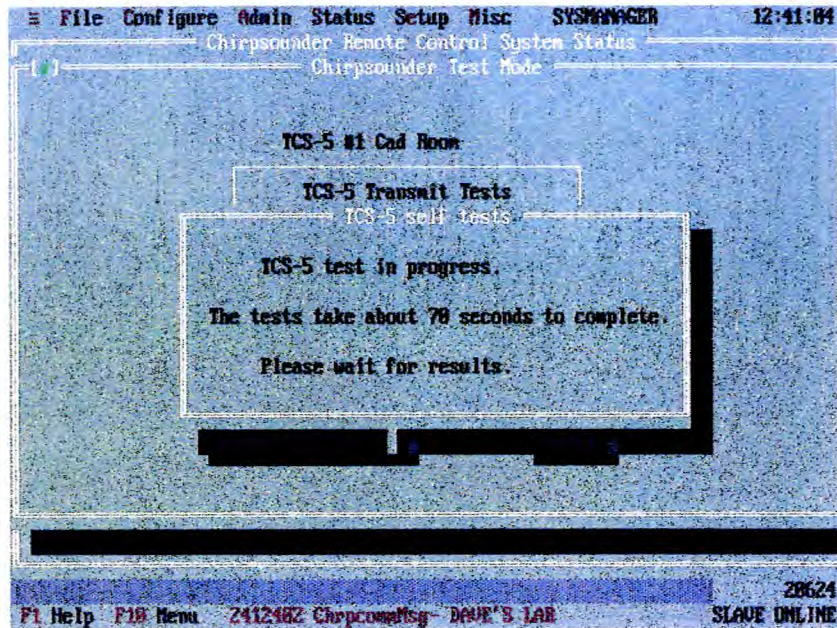
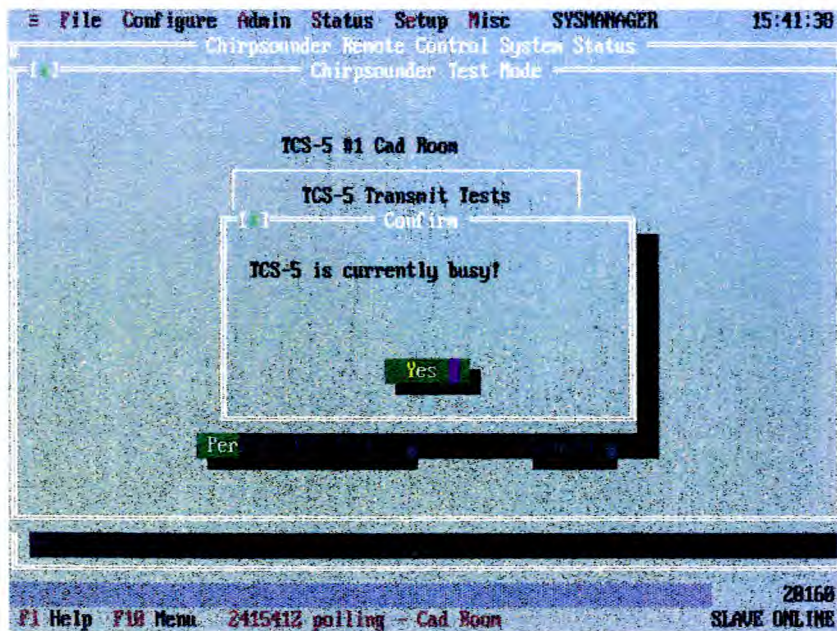
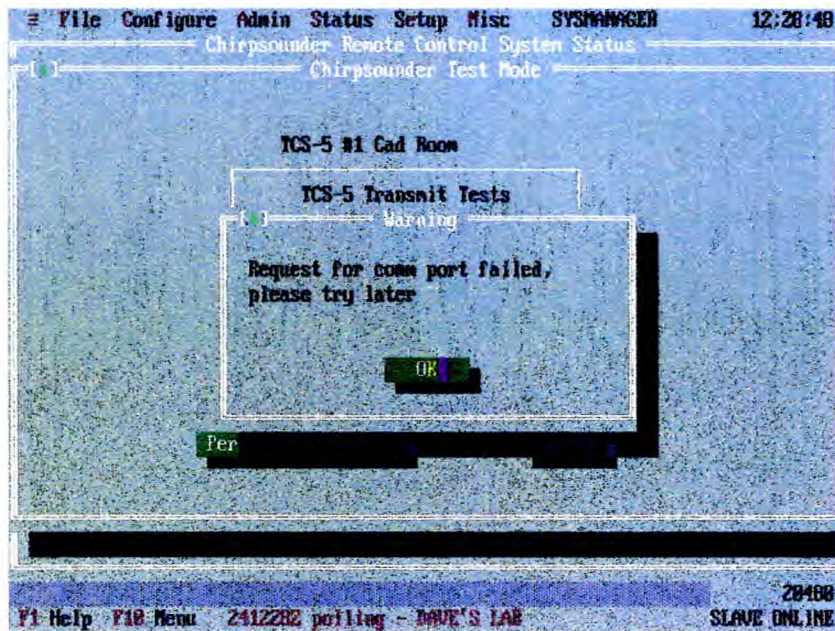

Fig 61
Fig 62
Fig 63
3.1 The screen shown in Fig. 61 shows that testing is under way. Had the selected TCS-5 been busy, ie being polled by any terminal, the screen shown in Fig. 62 would have been displayed. Fig. 63 shows the Warning Box associated with a failed attempt to interrogate the TCS-5. This occurs when all the available modems are in use.